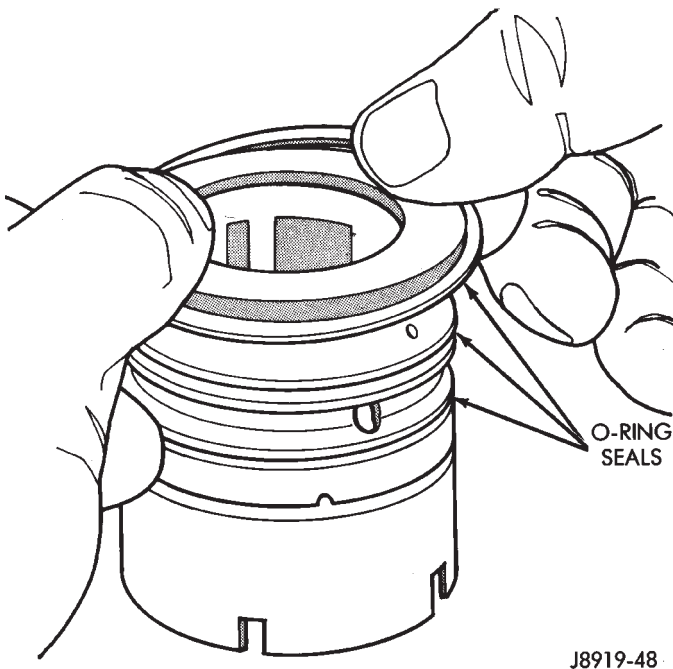

Fig. 27 Remove and Install Valve Seals
- Remove valve body teflon rings and O-ring seals (Fig. 27).